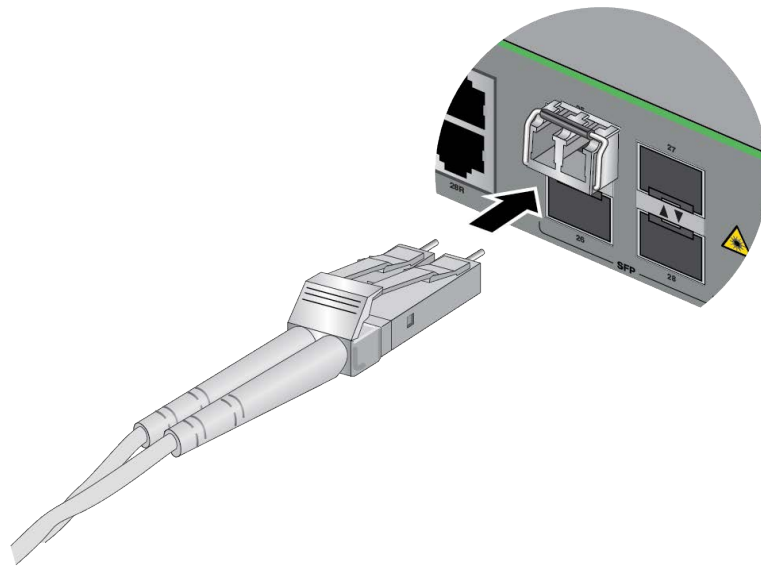

Figure 28. Connecting a Fiber Optic Cable to an SFP Transceiver
6. Connect the fiber optic cable to the transceiver. Refer to Figure 28. The connector on the cable should fit snugly into the port, and the tab should lock the connector into place.